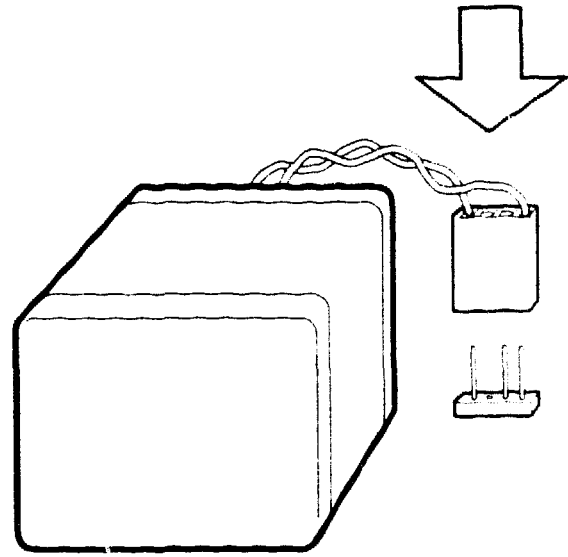

Figure 6.7: Battery Insertion
3. Take the new battery, and gently but firmly attach it to the Velcro strip. Connect the connector cable to the motherboard, as shown in the Figure 6.7. Ensure the wires are not crossed.